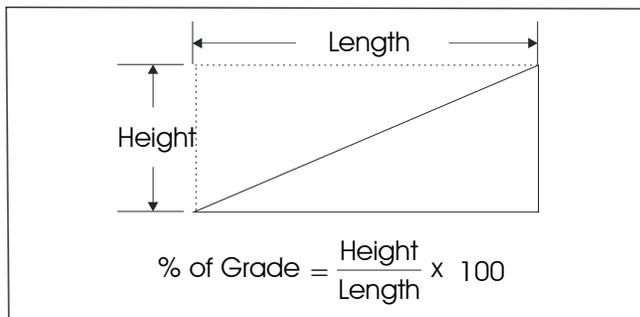

Figure 8.5 – Percent Grade Formula
The percent grade equals the height (rise) of the slope divided by the length (run) times 100. Refer to Figure 8.5.
5. Use the formula in Figure 8.5 to calculate the percent of the grade.